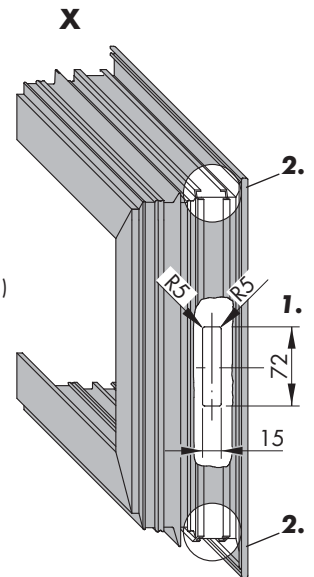

Figure 2
2. Open up the connecting rod's guide-groove (figure 2).